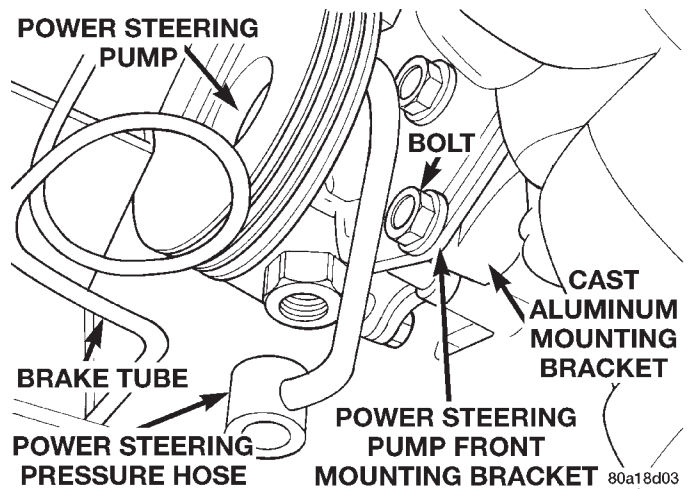

Fig. 5 Power Steering Pump Front Bracket Attachment (Typical)
- (9) Remove bolt at adjustment slot, (Fig. 5) which attaches power steering pump front mounting
(4) Install power steering pump and front bracket on the cast aluminum engine bracket (Fig. 5). Loosely install the bolt at the adjusting slot (Fig. 5).